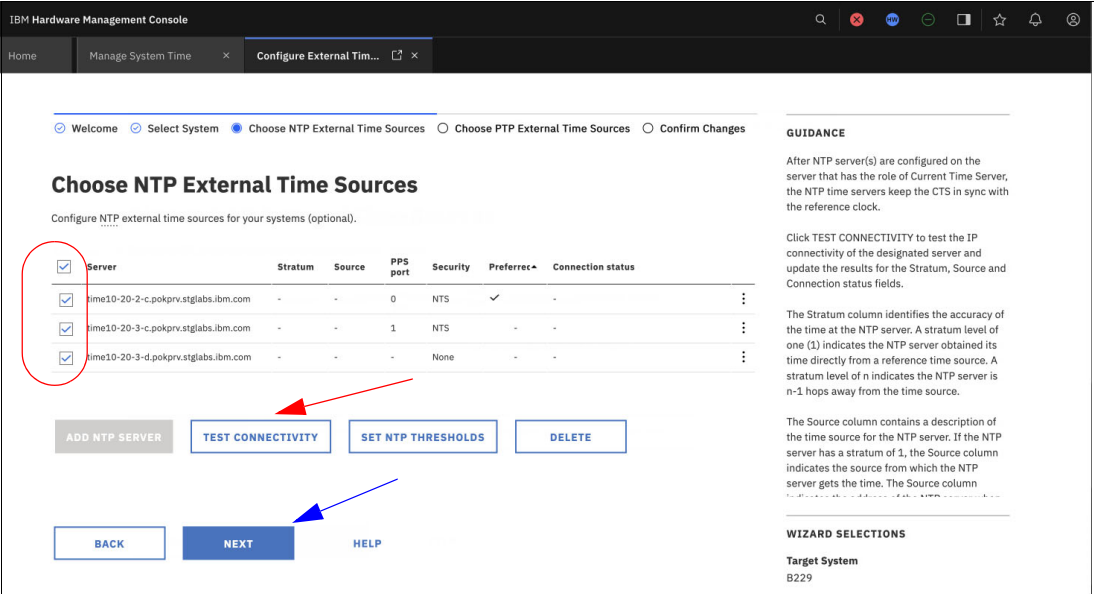

Figure 4-20 NTP servers selected for connectivity test
7. Test the connectivity for the configured NTP servers (Figure 4-20).